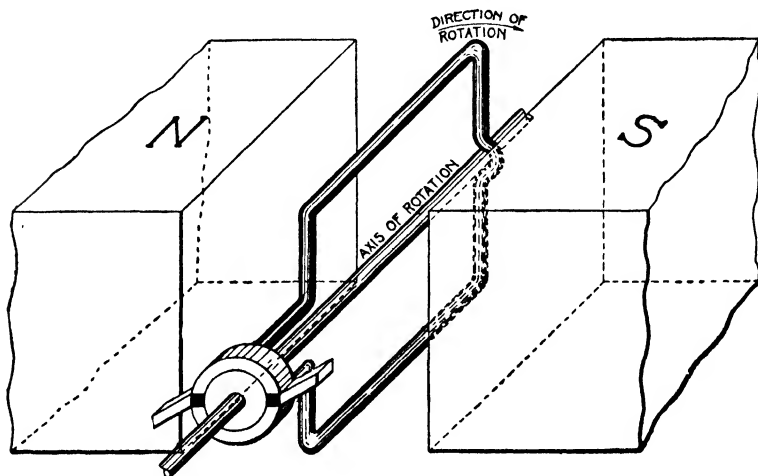
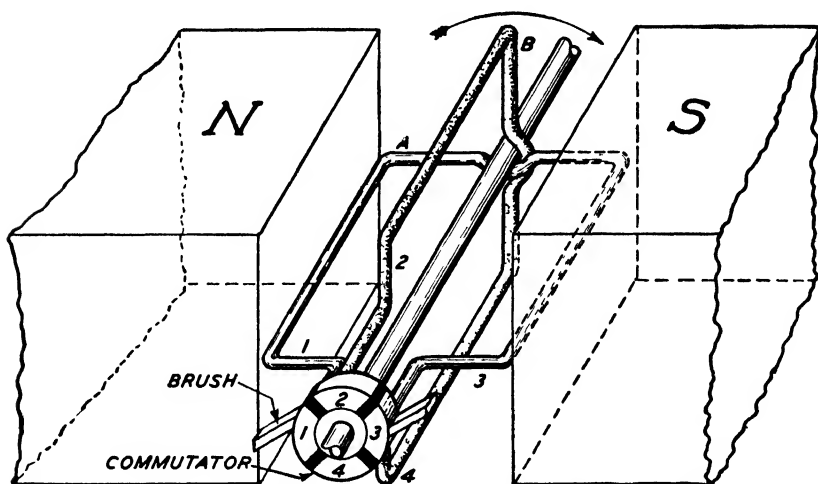

Fig. 12. Simple Direct-Current Generator
Fig. 14. Direct-Current Generator Composed of Two Loops of Wire and a Commutator of Four Segments
The simplest form of commutator consists of a metal ring divided into two equal parts and mounted on a tube of insulating material, the two halves of the ring being insulated from each other. Each half of the ring should be connected to one of the ends of wire formed by opening up the loop, Fig. 12. The metal parts composing the commutator are called segments. The two segments in the commutator are shown in Fig. 12. The electrical connection to the external circuit is made by means of suitable brushes which make electrical contact with the segments of the
commutator. Two brushes are required with a two-part commutator and single loop, as shown in Fig. 12, and these brushes should be equally spaced on opposite sides of the commutator, and in such a position that the insulation between the segments of the two-part commutator is exactly in the middle of the brushes when the plane of the loop is perpendicular to the direction of the magnetic field, or the induced e.m.f. in the loop is zero. A two-part commutator of this kind will reverse the connections of the loop of wire with respect to the external electrical circuit when the e.m.f. in the loop is zero and the e.m.f. acting on the external circuit always will be in the same direction and may be represented graphically by a curve
**OPERATION OF FOUR-PART COMMUTATOR AND TWO LOOPS OF WIRE.** The fluctuation in the value of the e.m.f. between the brushes with the arrangements shown in Fig. 12, can be reduced by using two more commutator segments and a second loop. In this case the metal ring is cut in four parts instead of two, thus forming a commutator composed of four segments instead of two. The two loops are placed at right angles to each other and the terminals of each loop are connected to commutator segments that are opposite to each other instead of adjacent to each other. The connections of the loops and segments are shown in Fig. 14. Two brushes are required, and they should be placed exactly opposite each other and in such a position around the commutator that they pass from one segment to the next when the planes of the two loops are making angles of 45 degrees with a plane perpendicular to the direction of the magnetic field. The proper position of the brushes is shown in Fig. 14. Let us now consider the operation of this machine. Starting with loop *A* parallel to the magnetic field, loop *B*, which is at right angles to loop *A*, will be perpendicular to the direction of the magnetic field. When the loops are in this position the brushes should be in the center of the segments connected to loop *A*. Now as the combination of loops and commutator (called the armature) rotates, the e.m.f. induced in loop *A* decreases in value and the e.m.f. induced in loop *B* increases in value (it is to be remembered at the start the e.m.f. in *A* is at its maximum value and the e.m.f. in *B* is zero). When the armature has turned through an angle of 45 degrees, the commutator segments connected to loop *A* move from under the brushes and the commutator segments connected to loop *B* move under the brushes. This results in loop *B* now being connected in series with the external circuit instead of loop *A*. Loop *B* will remain in electrical connection with the external circuit for the next 90 degrees' rotation of the armature, or one quarter turn, when the segments connected to
*B* move from under the brushes and those connected to *A* move under the brushes. From the above statements and a careful inspection of Fig. 14 it is apparent that the loops *A* and *B* are alternately connected to the external circuit, and each time either of them is connected it is for one quarter of a revolution of the armature. The e.m.f. between the brushes varies in value, but it will never drop to zero value as with the single loop. The connections of the loops are changed when they are making an angle of 45 degrees with a plane perpendicular to the direction of the magnetic field and the e.m.f.'s induced in the loops at this instant are equal in value and equal to 0.707 of the maximum e.m.f. in-
In an open-circuit winding the different loops do not as a whole form a closed circuit, but each loop is in circuit only when the commutator segments to which it is connected are in electrical contact with the brushes. The windings shown in Figs. 14 and 16 are of the open-circuit type.